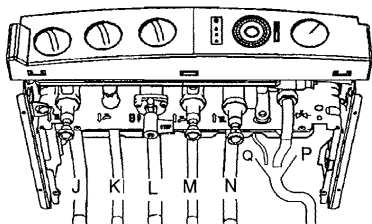

Fig. 10
- Push in the tabs P (fig 10) on either side of the boiler and pivot the electrical box forward to gain access to the valve connections.
Using (fig. 10) for reference, connect the gas and water pipes to the valves located at the base of the appliance using the tails provided. There is a 190 mm space between the valves and the wall to make these connections.
There are two pressure relief valves fitted to the CALYDRA. The DHW pressure relief valve connecting pipe is supplied attached to the valve and the CH pressure relief valve tube is clear silicone and is packed with the boiler. They should terminate together below the boiler over a tundish or a 28 mm to 22 mm reducer (see P 17, fig 10) which should in turn discharge safely outside the premises. Care should be taken